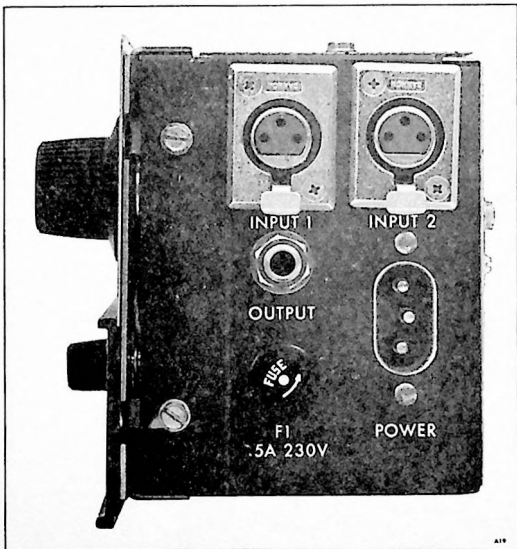

Figure 2-2. Electronic Assembly Connector Panel
2.9 Portable equipment is shipped with connections completed between the tape transport and electronic assembly, so it is necessary only to connect the input and output signal lines (paragraphs 2.15 and 2.19) and the power cable (paragraph 2.24). When equipment is disassembled for maintenance, all disconnected connectors must be reconnected. Connectors mentioned in the following procedures are shown in Figures 2-2 and 2-3.